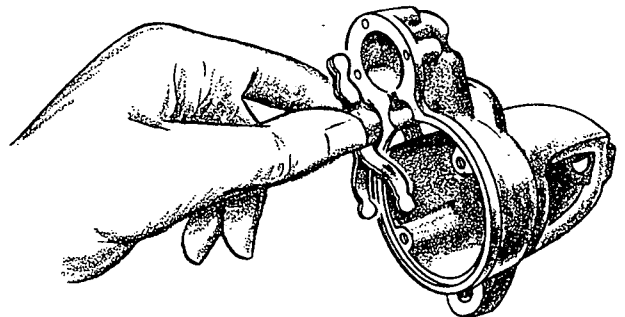

FIGURE 39. INSTALLING SHIFT LEVER
6. Insert the shift lever as shown in Figure 39 into the front bracket.